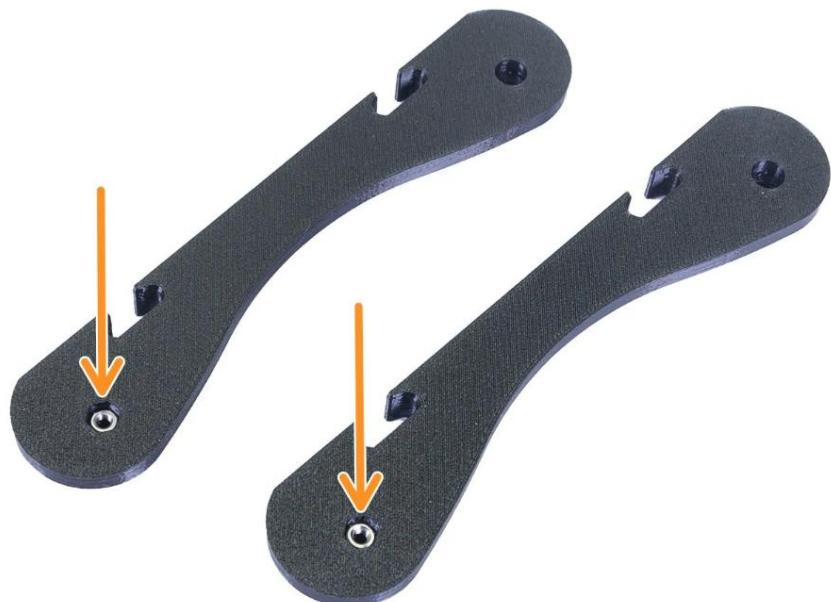

Figure 5.4.2
**A:** As shown in Figure 5.4.2. Take the two BASE parts and insert the M3n nuts into the holes in both of them - see the picture. If you can't push them in, insert a screw from the opposite side to pull them in.